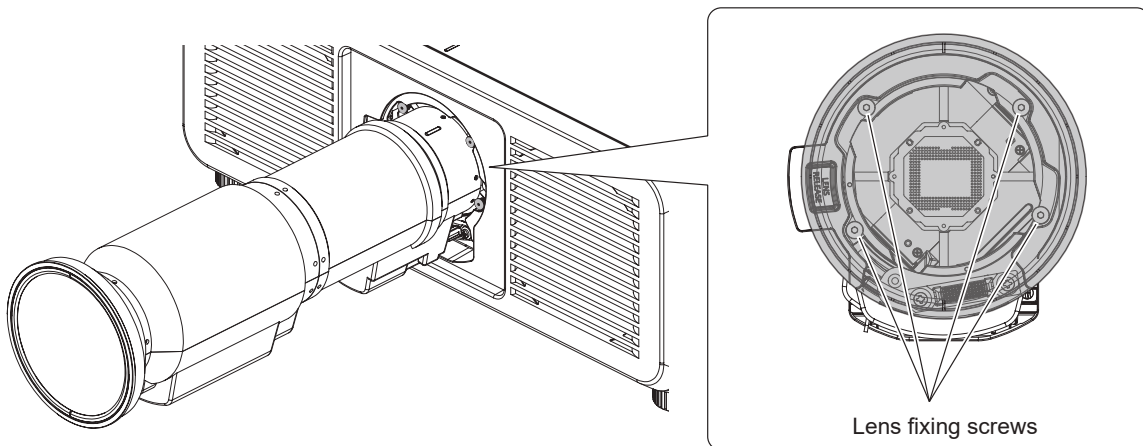

Fig. 1
- 1) **Loosen the four lens fixing screws with the ball point hex driver until the screws turn freely. (Fig. 1) (Only for ET-C1U100)**